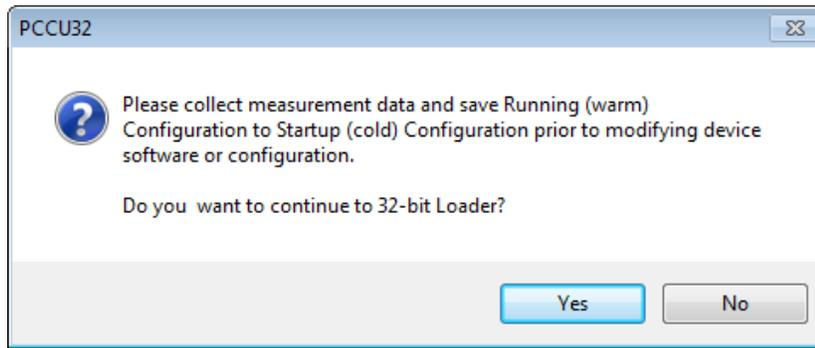

Figure 65: File and configuration preservation message
3. Click **Yes** to continue to the loader connection screen (Figure 65).